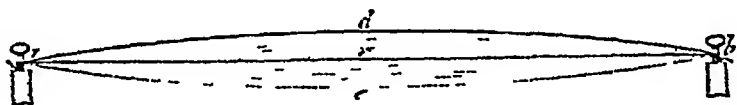
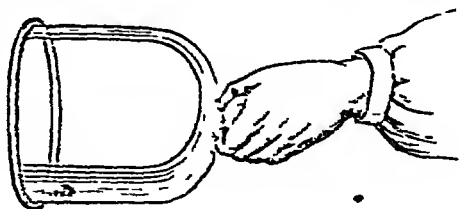

FIG 40
FIG 41
**The cause of sound**—The vibrations (from *c* to *d* and back to *c*) caused by plucking a tightly stretched cord are so rapid that we are unable to count them (fig 40). A sound due to the vibrating string is heard. That a wine-glass vibrates, when it rings, is easily shown (in fig 41 a bell-jar is used); a small bead is placed inside the glass on striking the jar with a piece of wood, it